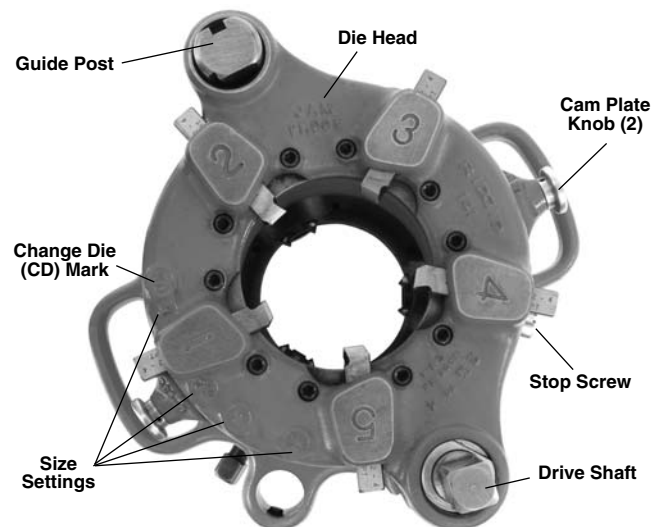

Figure 3 – Geared Threader With Drive Shaft Up (Model 141 shown)
2. Remove stop screw from the selector plate (Figure 3).